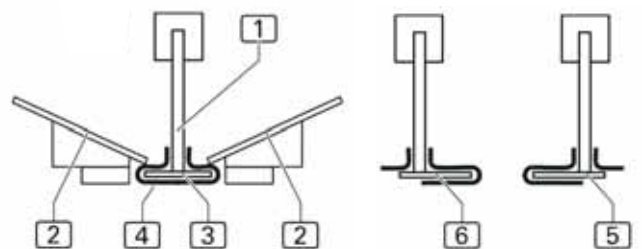

fig. 3
**fig. 3:** The folder **1** holds the piping or welting strips in position, while the two folding slides **2** fold the strips **4** round the base edge **3** of the folder. Depending on the design of the pocket opening, folders with different base edges can be used.